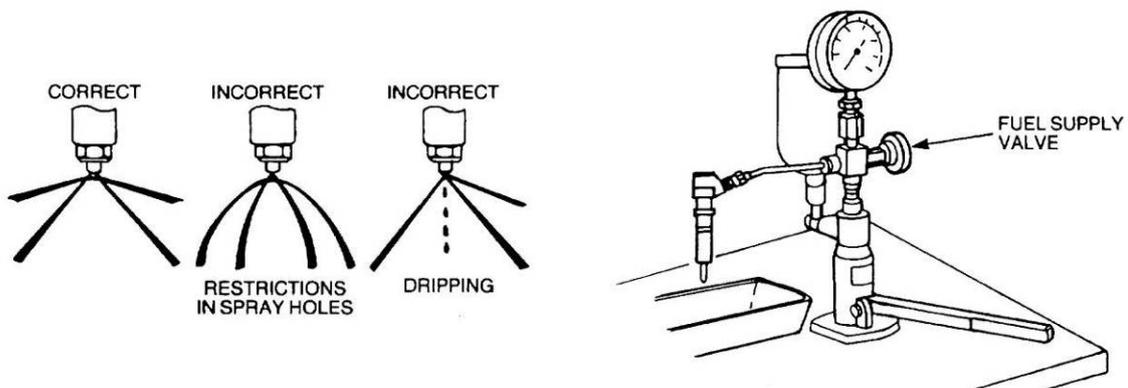

Figure 145 Injector Spray Pattern Test
- a. Ensure that there is sufficient clean fuel in the reservoir. Install the injector on the test rig and close off the fuel supply to the gauge. Operate the handle two to three times while observing the fuel spray pattern (Figure 145).